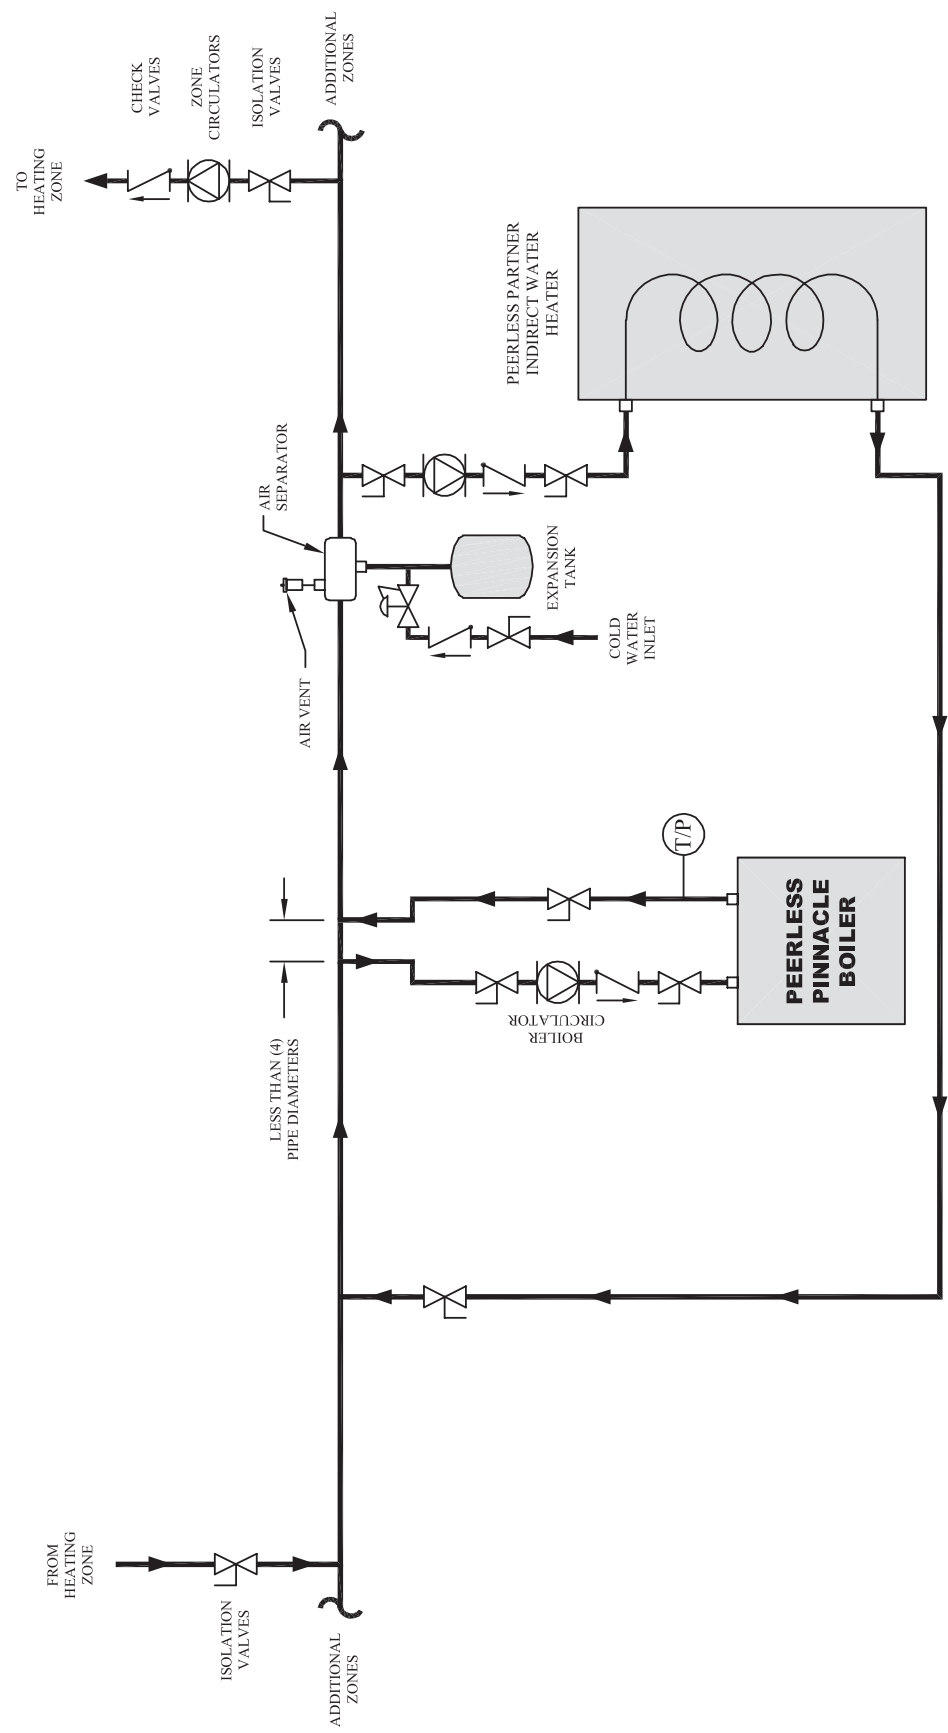

Figure 3.3: One Boiler, Primary/Secondary with Two Zones (Zone Circulator)
- Figure 3.3 shows a single boiler with two zones. In this application, the Peerless Partner indirect water heater and the single heating zone require similar water temperature.